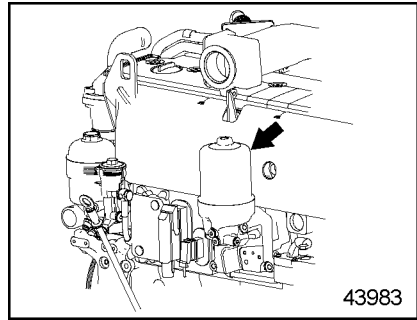

Figure 48 Oil Centrifuge
1. Remove the cover of the oil centrifuge. See Figure 48.